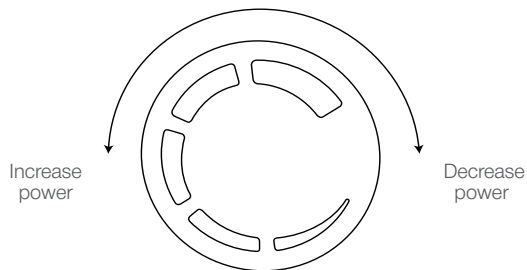

Fig. 2
3. Turn the gas valve of heater counterclockwise until it stops at maximum power and push it in. (fig.2)